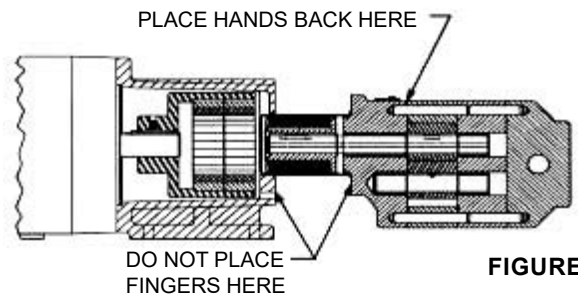

FIGURE 10
4. Remove any foreign particles from the outside of the canister, then slide the canister into the coupling bracket (See **Figure 10** on page 7).